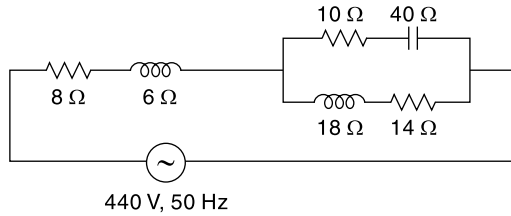

Fig. 5.40 Circuit diagram for Ex. 5.39
5.39 Determine the current drawn by the series parallel circuit shown in Fig. 5.40 and find the overall p.f.